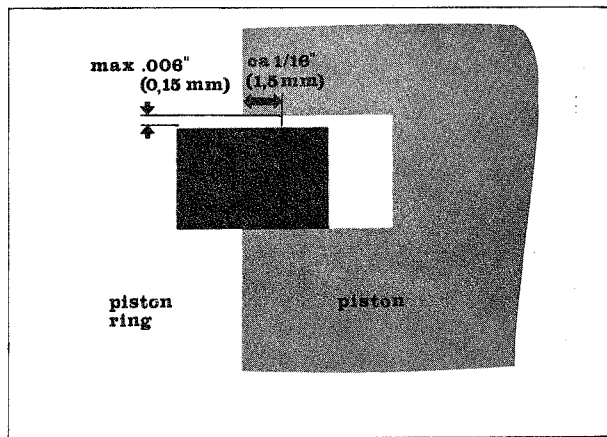

Fig. 5
- A. When the play in the ring groove amounts to .006" (0.15 mm) to a depth of approx .06" (1,5 mm), replace the piston. See Fig. 5.